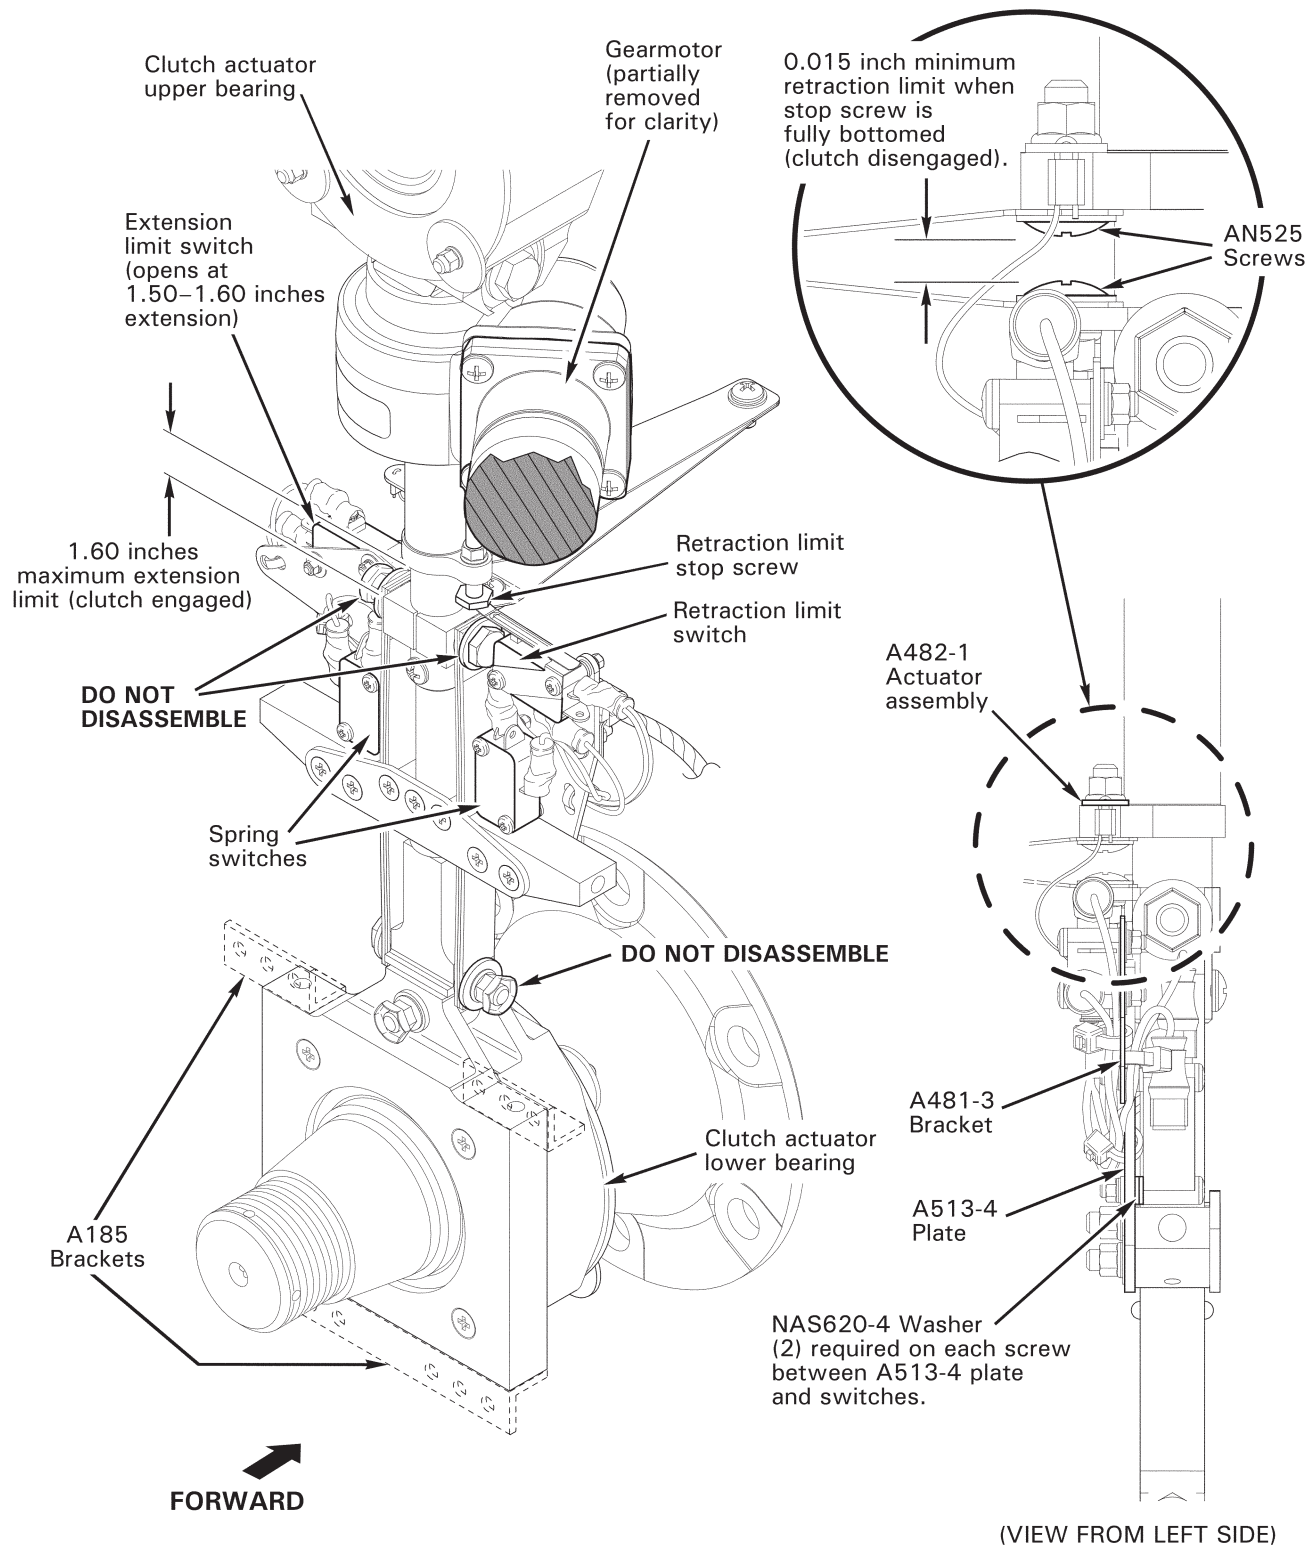

FIGURE 7-14 ACTUATOR LIMIT SWITCHES
2. Position actuator in helicopter per Figure 7-14.
The retraction limit switch is activated by the retraction limit stop screw, which can be adjusted using long 3/8-inch open-end (or MT357-6) and 1/4-inch box-end (or MT357-7) wrenches. Adjust retraction limit stop screw to maintain proper belt deflection per § 7.282 with actuator fully disengaged. Minimum clearance between screw heads at scissors is 0.015 inch per Figure 7-14.
Refer to Figure 7-14. Maximum engaged extension is 1.60 inches. The extension-limit switch activates at 1.50–1.60 inches extension. Drive V-belts must be replaced when maximum extension is encountered.